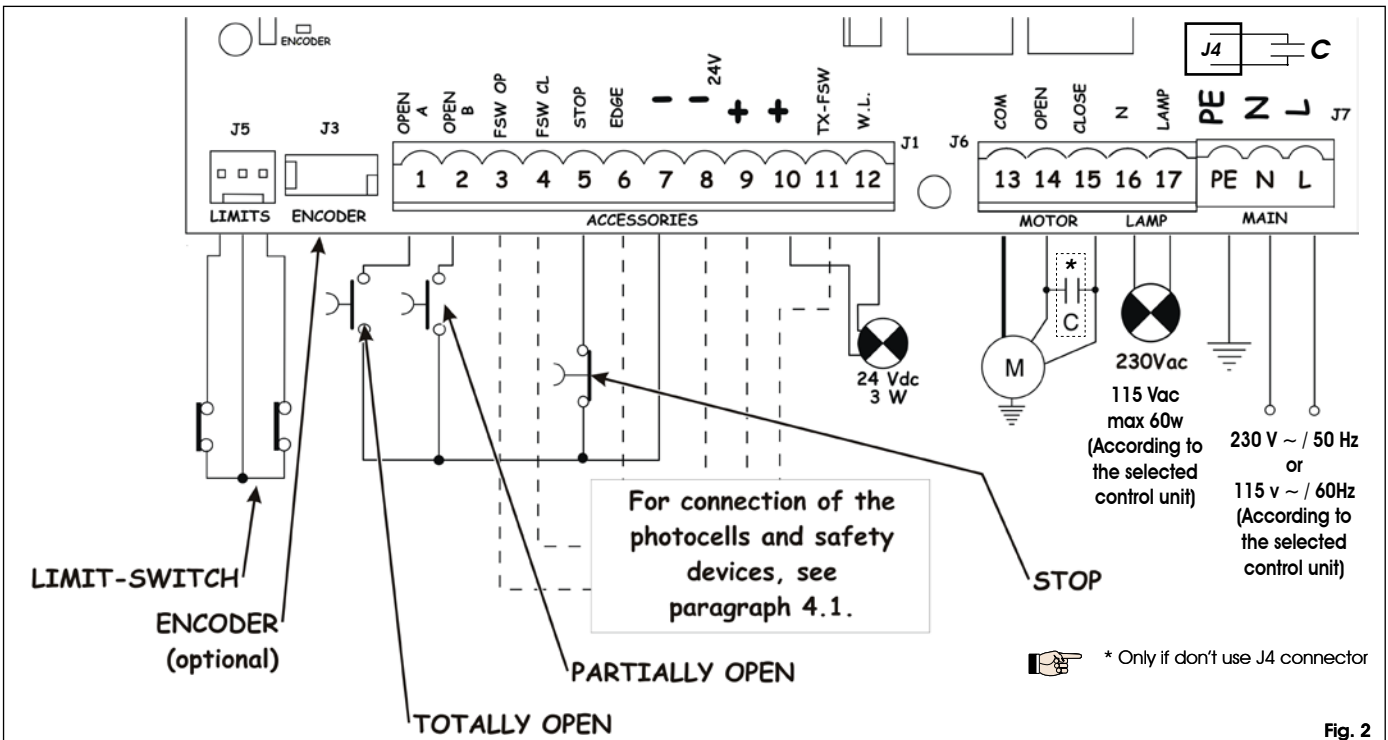

Fig. 2
4.2. J7 Terminal board - Power supply (fig. 2)	page.14
4.3. J6 Terminal board - Motors and flashing lamp (fig. 2)	page.14
4.4. J1 Terminal board - Accessories (fig. 2)	page.14
4.6. Connector J6 - Limit-switches rapid connection (fig.2)	page.15
4.7. Connector J3 - Encoder rapid connection (fig.2)	page.15
Connect the earth cable to the appropriate terminal on the J7 connector of the equipment (see fig.2).
4.2. J7 Terminal board - Power supply (fig. 2)
4.3. J6 Terminal board - Motors and flashing lamp (fig. 2)
4.4. J1 Terminal board - Accessories (fig. 2)